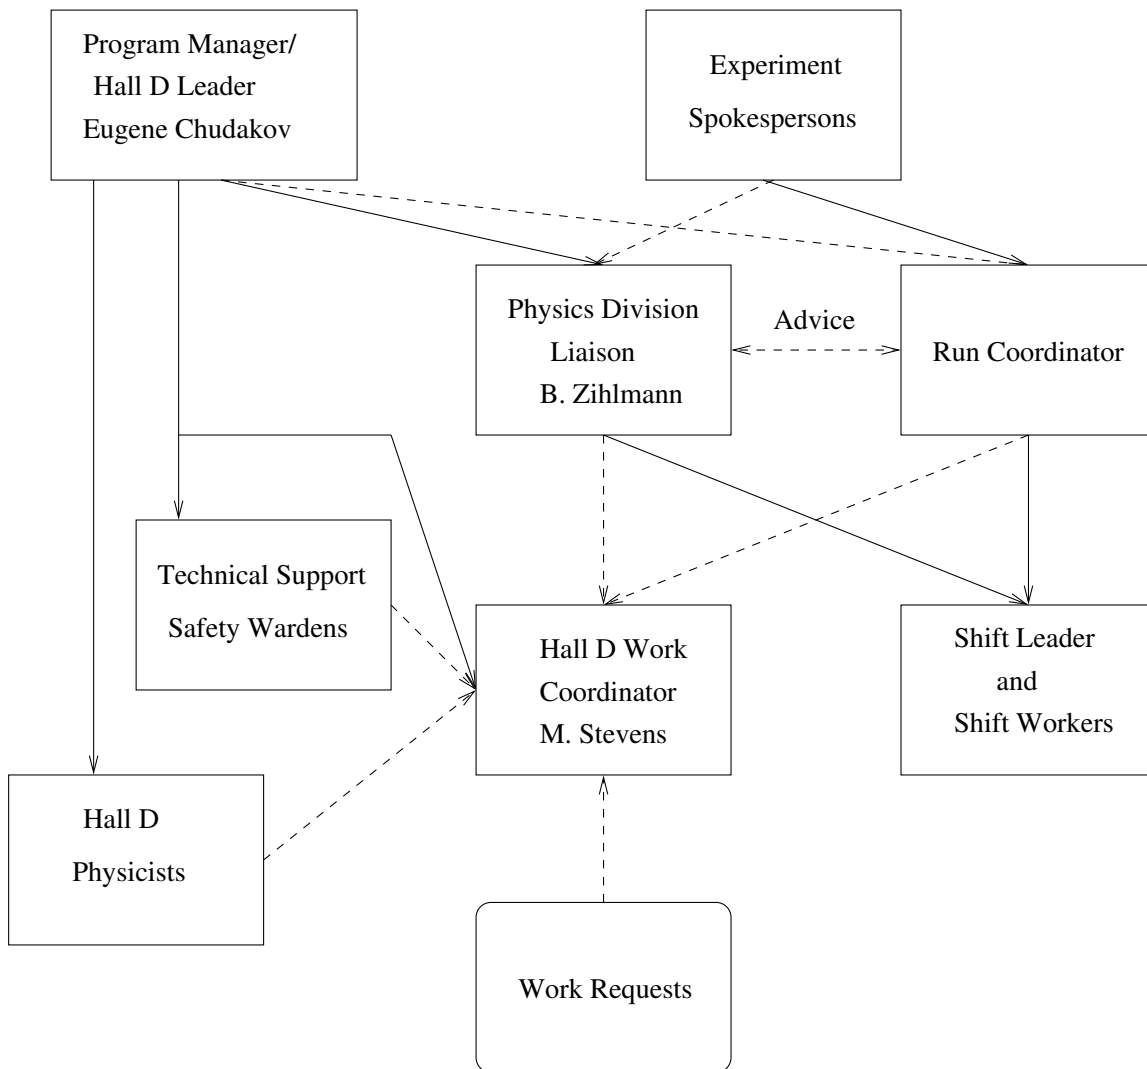

Figure 1: Functional Organization of the Hall D Team. Dashed lines indicate information flow, solid lines indicate responsibility.
- Figure 1: Change L. Pentchev to B. Zihlmann as PDL
- Figure 1: Change B. Zihlmann to L. Pentchev as PDL
- Figure 1: Change T. Carstens to M. Stevens as work coordinator